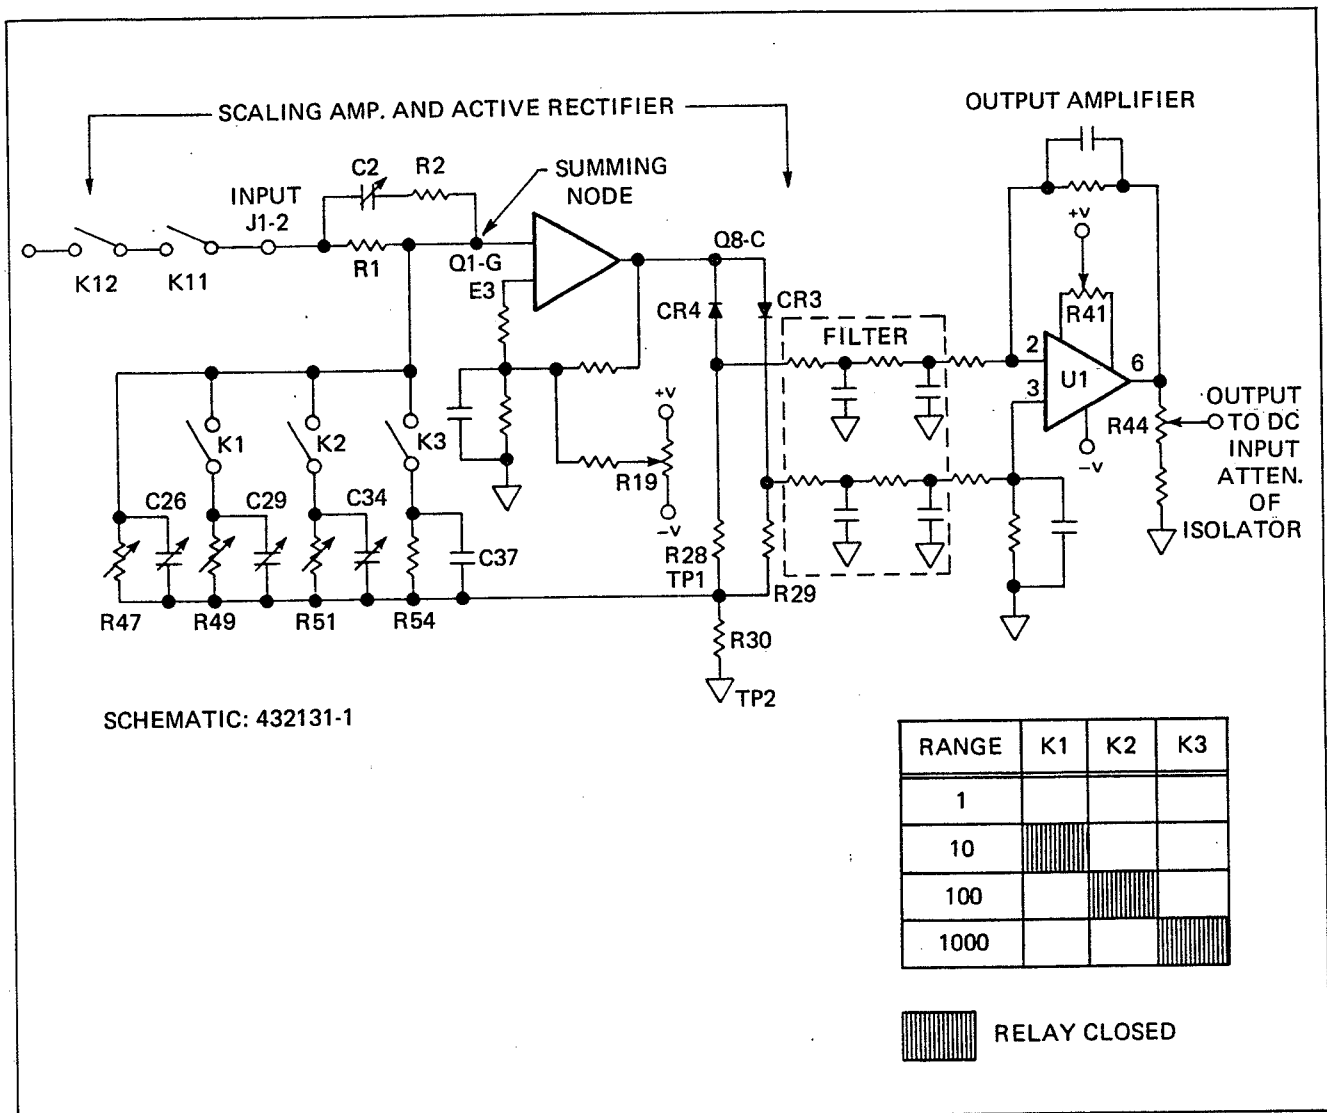

Figure 4.6 - Averaging AC Converter
the Scaling Amplifier. A simplified drawing of the AC assembly is shown in Fig. 4.6, a take-off from schematic drawing 432131-1.
4.3.6.3 The Scaling amplifier Input resistor R1, and selectable feedback resistors control gain of each range. Range relays K1-K3 select the feedback resistors for each range. The Scaling amplifier attenuates the input signal in the 1, 10, 100 and 1 KV ranges. Feedback on the 1V range is through the permanently connected resistor R46/47. The 10, 100, and 1 KV ranges have relay selected feedback that parallel the 2V network through R48&49, R50/51/52, and R53/54/55 respectfully. The output from the scaling amplifier is 1V for full scale in each range. The relay chart shown in Fig. 4.6, presents the relay states for each range selected.